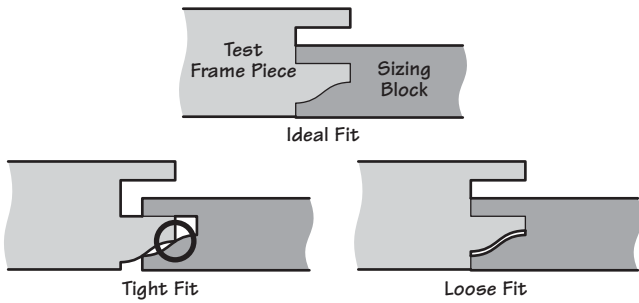

Figure 5: Testing the cutter spacing.
- Use the sizing block to check the spacing of the cutters. (See **Figure 5**.) If the test piece is too tight or does not fit into the sizing block, shims between the cutters need to be removed. If the fit is too loose, more shims must be added. Repeat the test cut until a satisfactory fit is achieved. Make a note (on the sizing block) of the number (or thickness) of shims used for future reference.